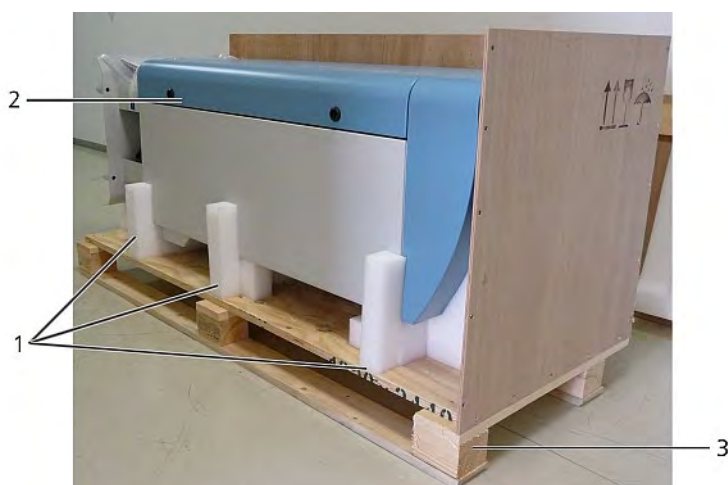

Figure 7 CHM 15k with Styrofoam or paper honeycomb packing pads.
- ⇒ Carefully lift the CHM 15k out of the polystyrene or paper honeycomb packaging by hand, observing all safety regulations. (Lifting positions: Figure 7)
- ⇒ To carry: Grasp the equipment in the openings marked with arrows (Figure 7)